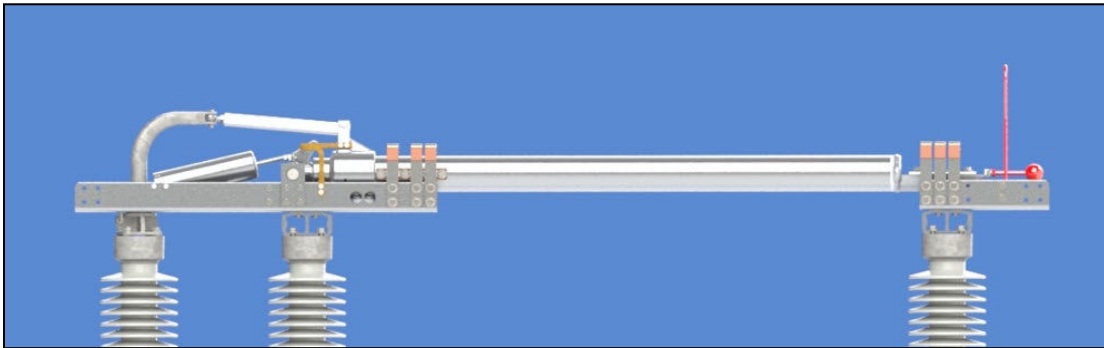

Figure 18: Switch – Fully Closed Position
- 6.3.1. Start with the disconnect switch and operating mechanism in the closed position. Refer to **Figure 18**